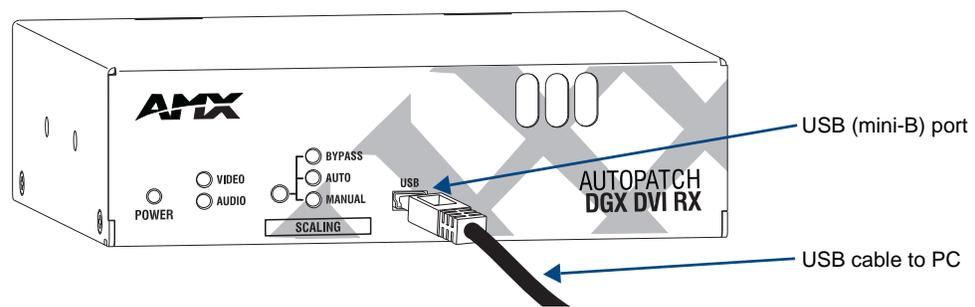

FIG. 39 Connect USB cable to PC and to module (DGX DVI RX shown)
2. Using a USB mini-B cable (FG10-5965 provided) connect the module to a PC that is running Windows (FIG. 39).